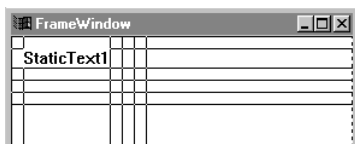

Figure 94. Multicell Canvas with IStaticText* Part at Cell (2,2)
- Row 1 was left as a spacer between the top of the multicell canvas and the window border. When you drop the IStaticText* part, cell (2,2) expands to contain the dropped part. The multicell canvas now looks like Figure 94.